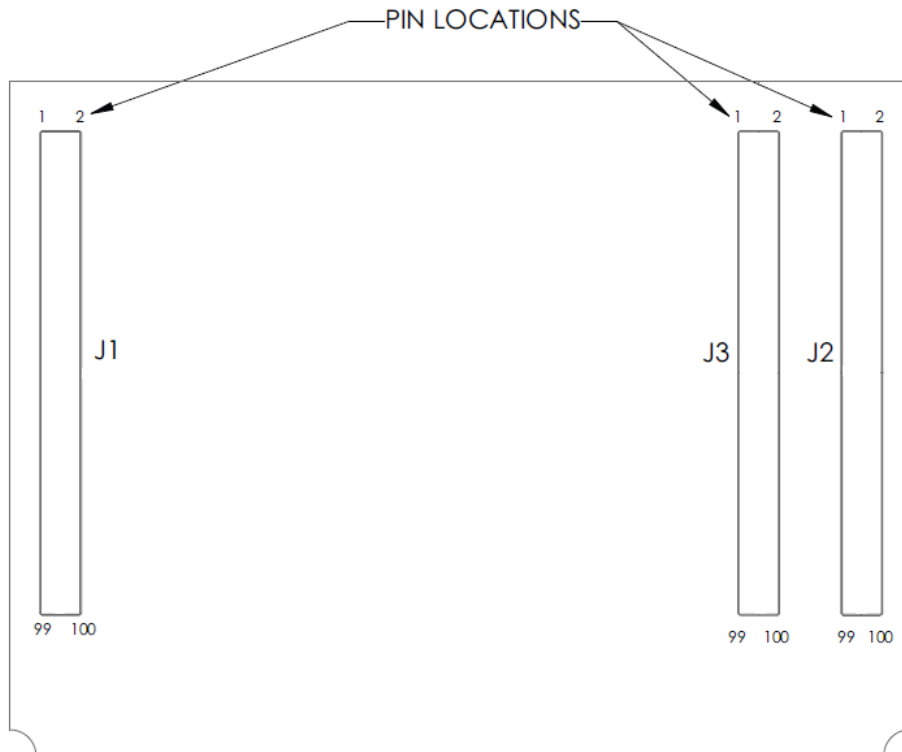

Figure 3.1: Recommended Baseboard Footprint
1. Verify that baseboard connectors are positioned in the correct order where J1 and J2 are the outside connectors. The silkscreen should display pins 1, 2, 99, and 100 for each connector to show their orientation on the board. See Figure 3.1 below.